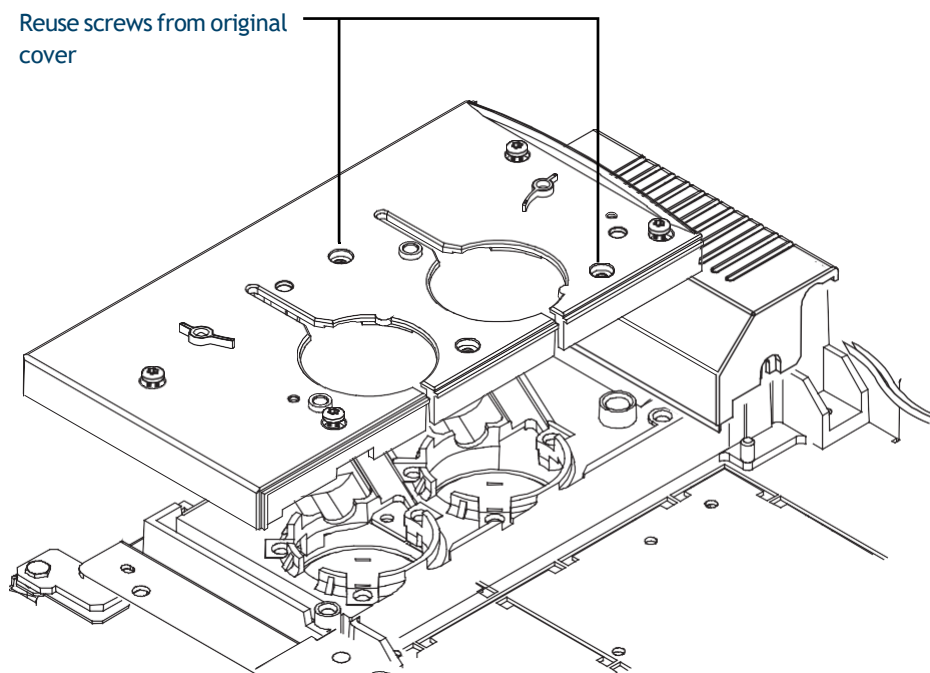

Figure 3. Replacing the injection port top cover and inlet fan cover (6890 Series GC)
- 4 Secure the replacement injection port top cover using two screws from the original inlet cover in the hole locations (Figure 3).